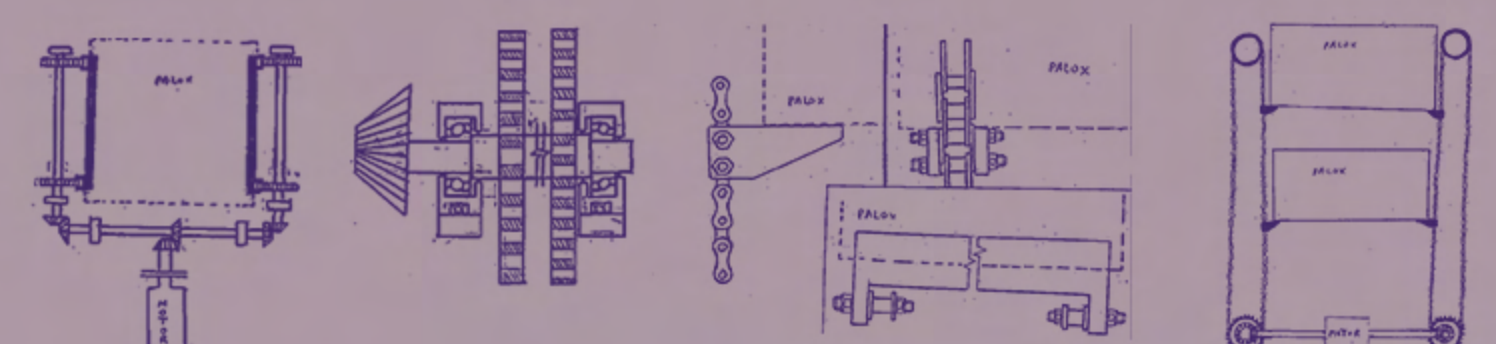

Figure 7: Sketches of the palox buffersystem mechanisms
- 4.) Machine sketches were created (Figure 7), and measurements were defined.